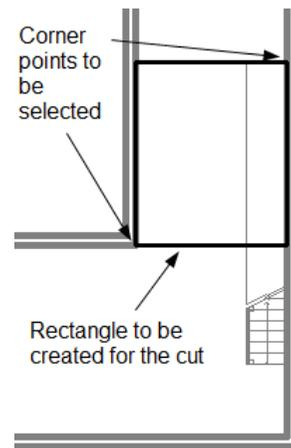

Figure 3-52 Rectangle to be created for cut in the slab
1. Choose the **Rectangle** tool from the **Rectangle** drop-down available in the **Draw** panel of the **Home** tab; you are prompted to specify the first corner point. Specify the corner points for the rectangle, as shown in Figure 3-52.